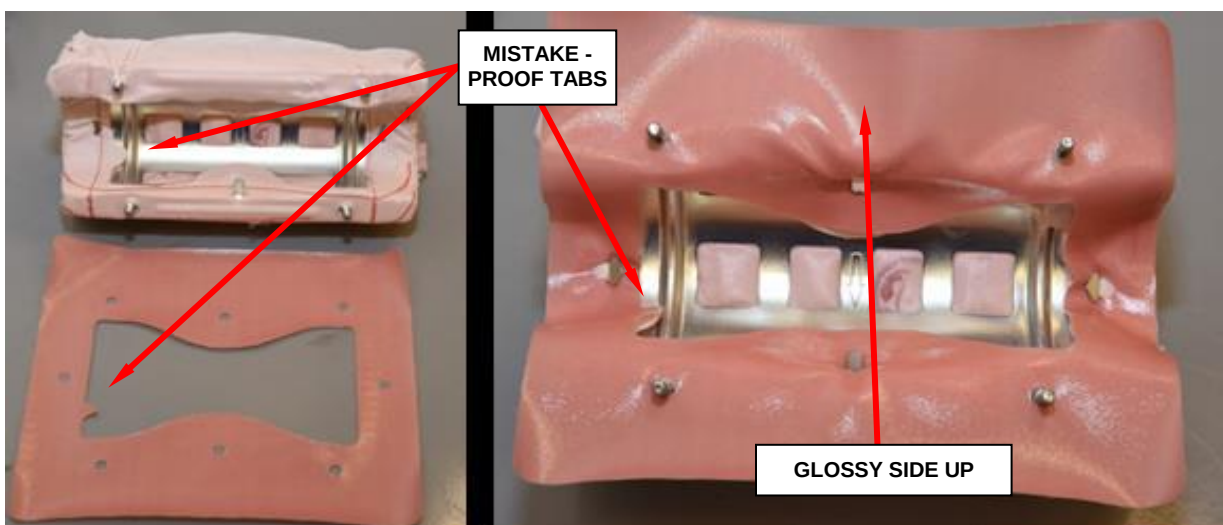

Figure 77 – Fabric Gasket to Cushion
- f. Place the fabric gasket, glossy side up, onto cushion. Mistake-proof tab should be aligned to the tab on the cushion (Figure 77).